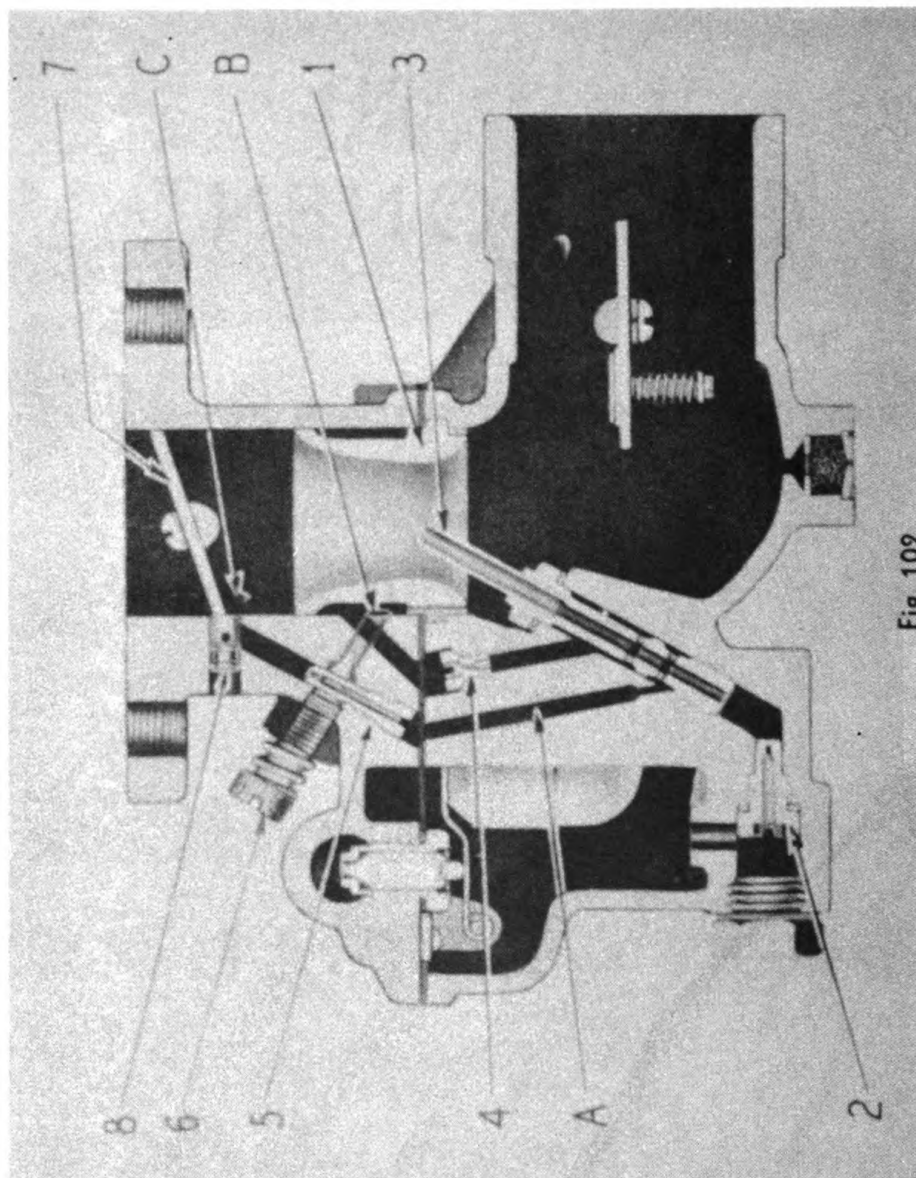

Fig. 102
GENERAL DESCRIPTION—(Fig. 102) shows the construction of the Zenith 161 Series carburetor.
To properly repair Zenith 161 Series Carburetors we suggest the following routine: (Fig. 102)
2. Install air shutter plate screws and lockwashers. Be sure air shutter valve is in correct position as shown in (Fig. 102) and that the air shutter plate is properly centered before tightening the screws securely.